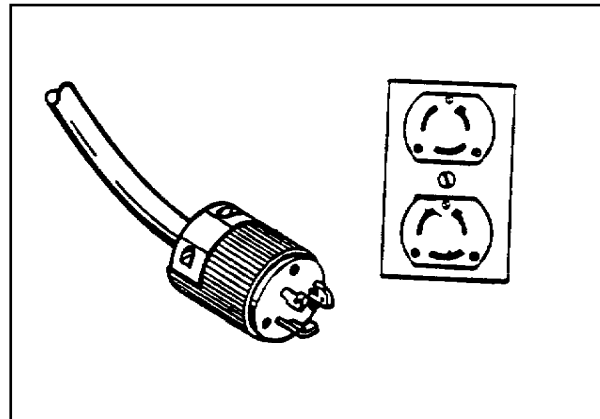

Figure 1
**CAUTION:** This machine will operate only on AC frequency and on electrical voltage shown on the equipment nameplate. Make sure you have the correct frequency and voltage before connecting the power cord to an outlet. See the example in figure 1.